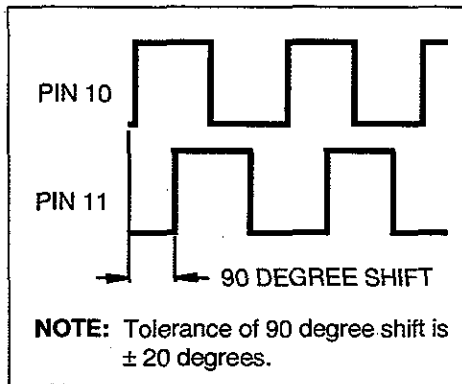

Figure 6-1
2. Run the injector with the forward load key. The waveforms should look like those shown in Figure 6-1. If these waveforms are correct, quadrature is properly adjusted.
If the waveforms are not as shown in Figure 6-1, quadrature should be calibrated. Continue with the following procedure.
3. Run the injector with the forward load key and monitor the test points. Adjust quadrature by slightly moving the encoder bracket left, right, forward or backward until the waveforms are as close as possible to those shown in Figure 6-1. In most cases movement of only 1/16" is sufficient.